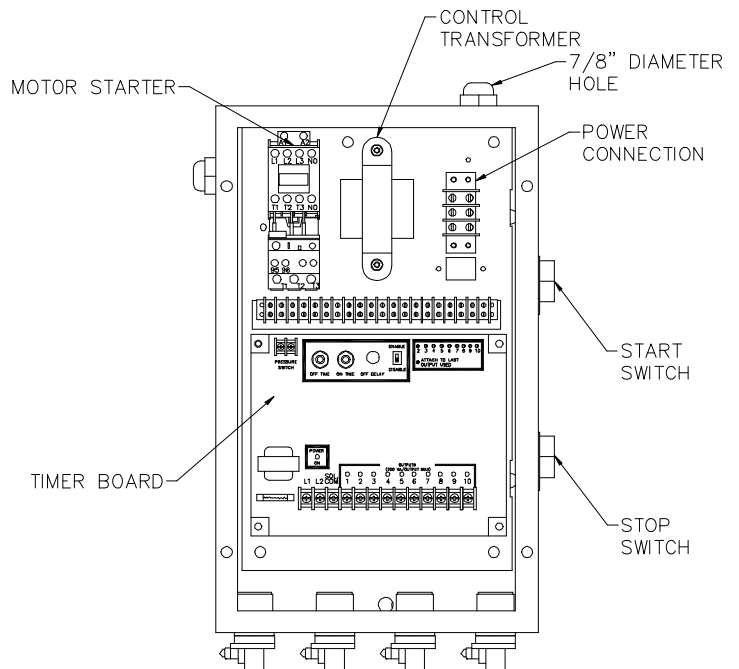

FIG. 4
- Make connections from your supply power to terminal L1, L2, and L3. Wire size should be rated for motor horsepower load needed for your application (see FIG. 4).
2. When the enclosure is mounted, make connection from your supply power to terminals L1, L2, and L3. Wire size should be rated for motor horsepower load needed for your application (see FIG. 4).